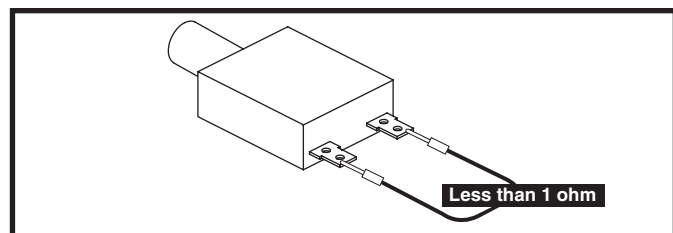

Figure 7. Circuit Breaker (2f)
13. Measure resistance across contact 1 and contact 2 of the circuit breaker (2f). **See figure 7.**
- If your multimeter indicates less than 1 ohm, then replace the power interface harness (2) and retest the system.